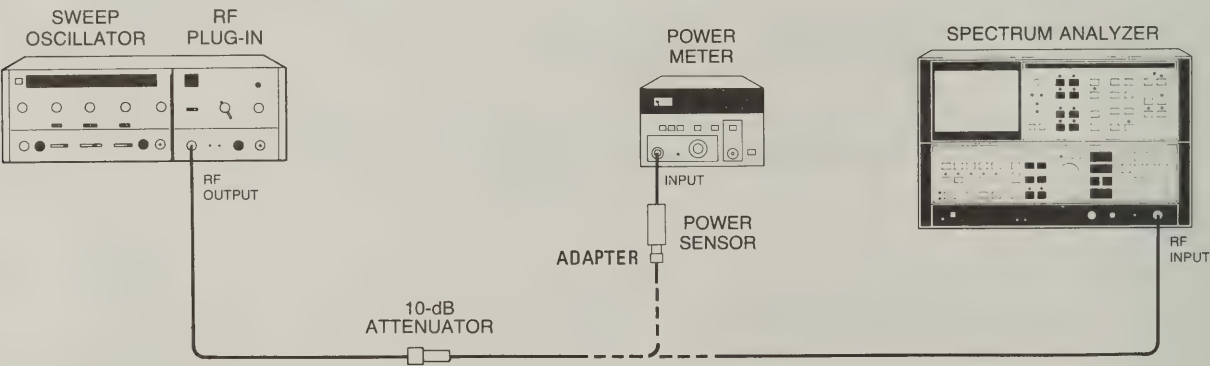

Figure 4-11. Spurious Signals, Test Setup
- a. Connect Power Meter as shown in Figure 4-11. Allow 30 minutes warm-up time.